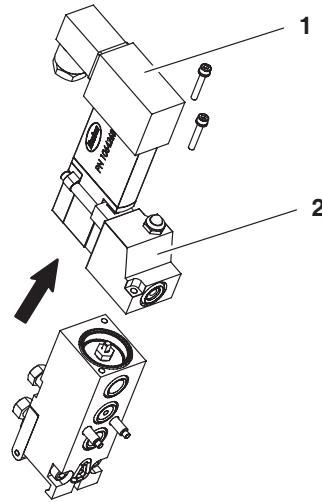

Figure 11 Removing the air cap and solenoid valve
5. See Figure 11. Using a 2-mm hex wrench, remove the two screws that retain the air cap (2) and (if applicable) the solenoid valve (1).